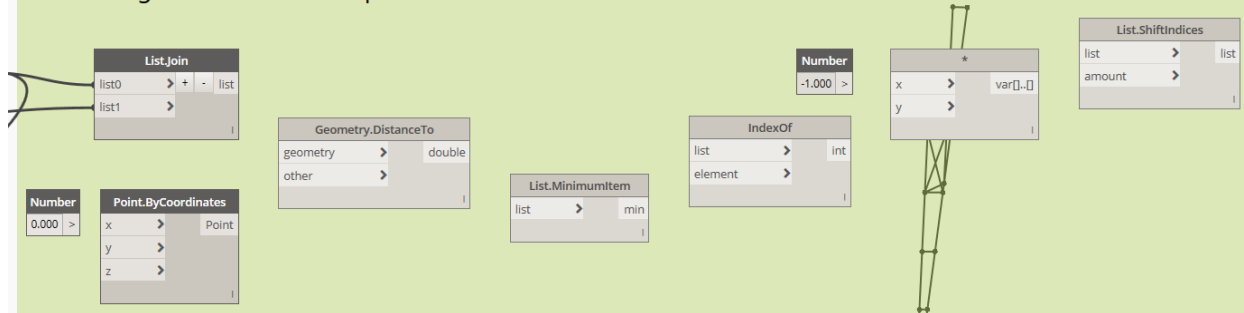

FIGURE 105
50. Position the nodes as shown in Figure 105.